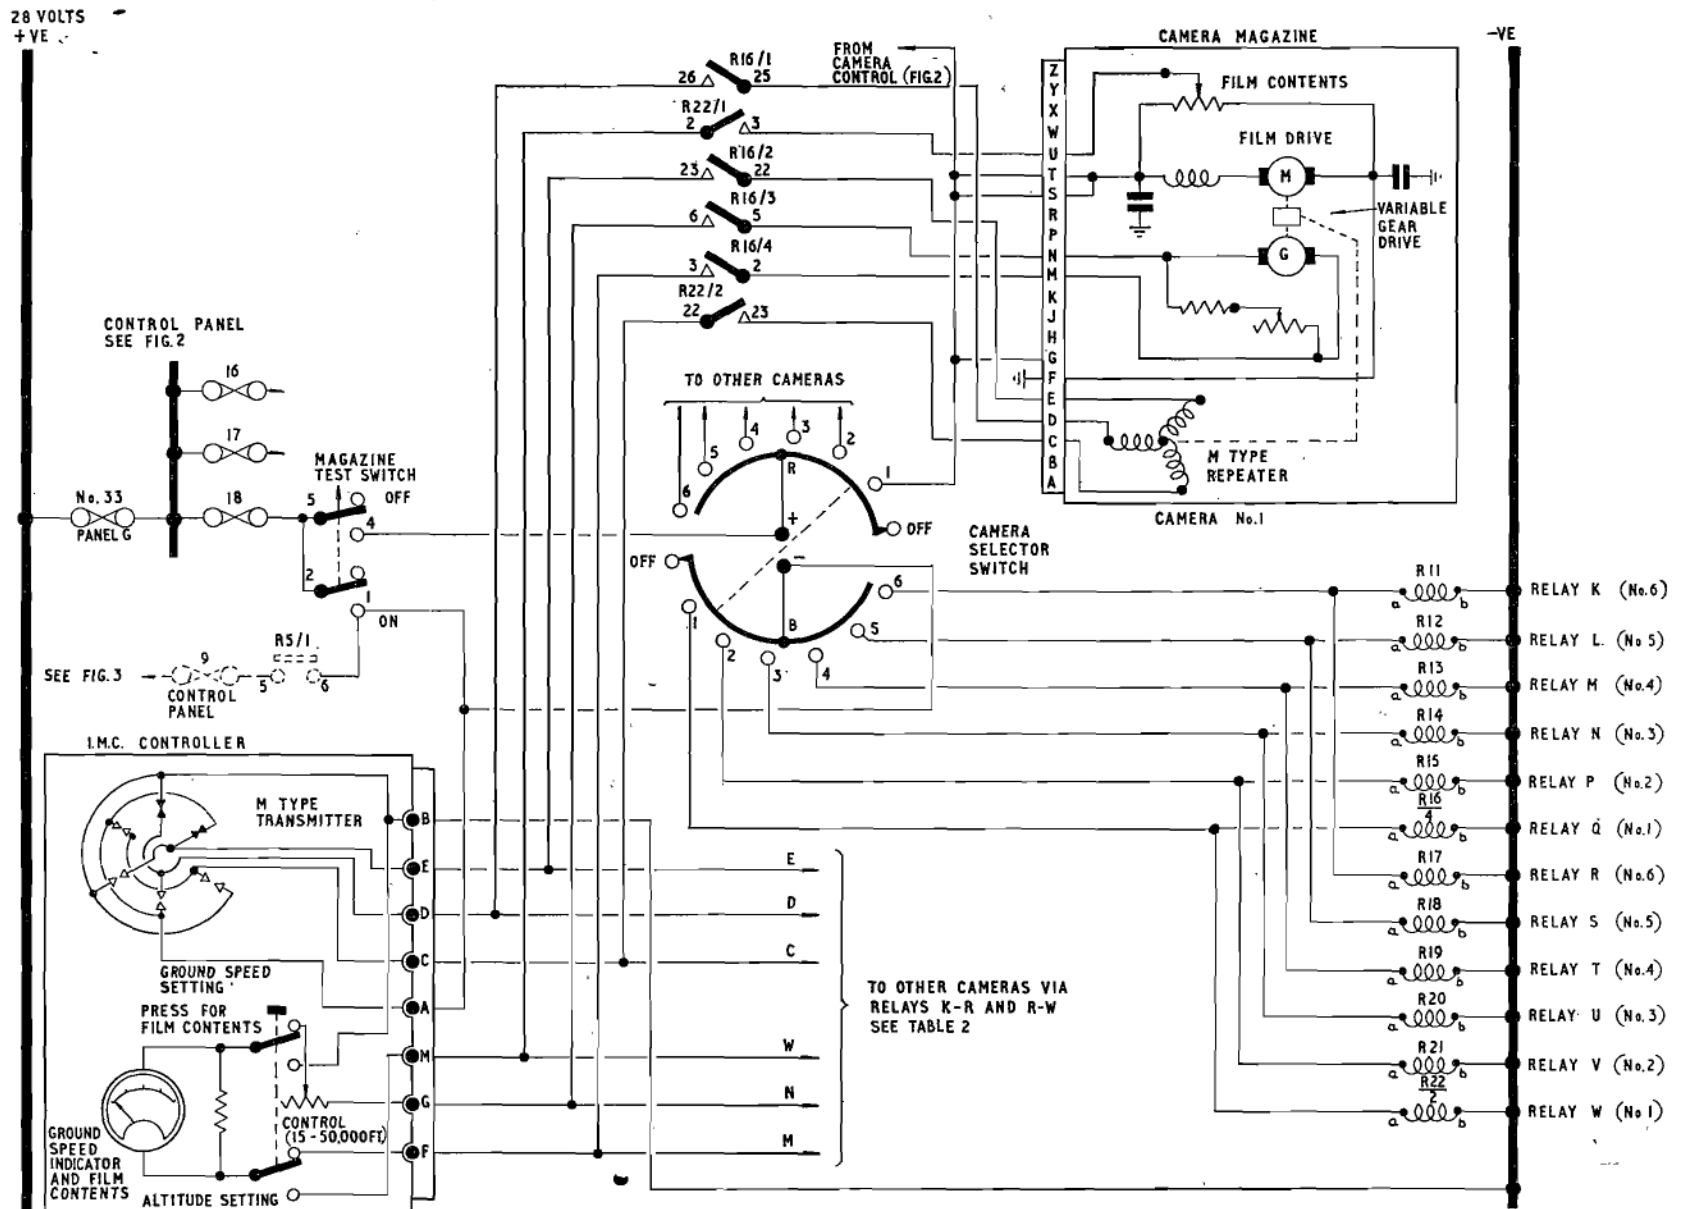

Fig. 4. Image movement compensation and film contents indication
45. Contact R5/1 of relay F closes to connect a supply from the control panel bus-bar to the I.M.C. control camera selector switch (fig. 4) and to the FILM INDICATOR lamps. There are two green FILM INDICATOR lamps for each camera, one on each control panel, the circuit being switched in the negative line by a micro switch in the camera magazine as the film is wound over from frame to frame. The lamps should pulse steadily as exposures are made.
Image movement compensation (fig. 4)
Film contents indication (fig. 4)